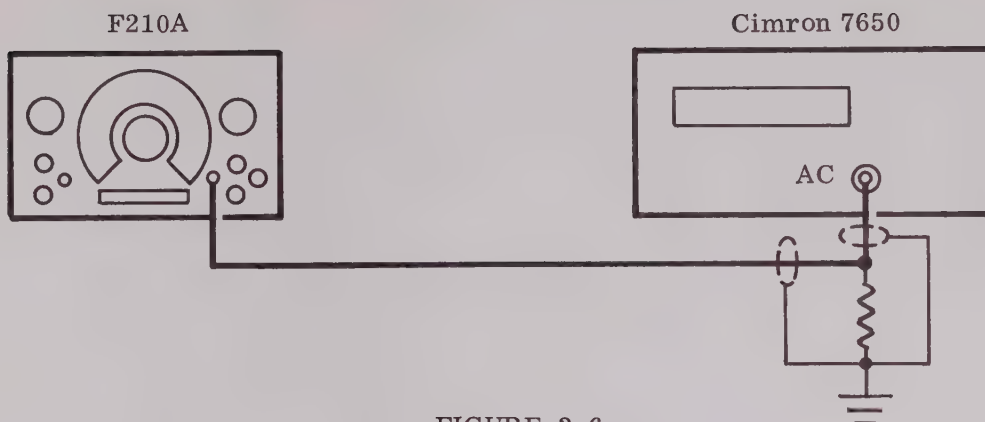

FIGURE 3-6
11. Interconnect the equipment as shown in Figure 3-6, observing signal and ground connections carefully.